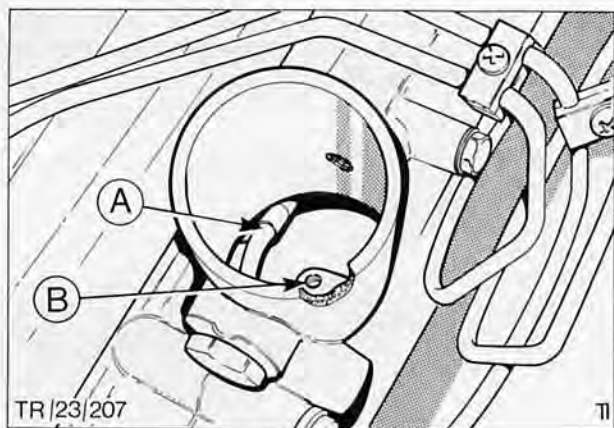

Fig. 85. Inlet manifold air intake
19. Using a mirror look down the manifold air intake and check that the loom does not pass over the air cleaner securing bolt hole, Fig. 85.